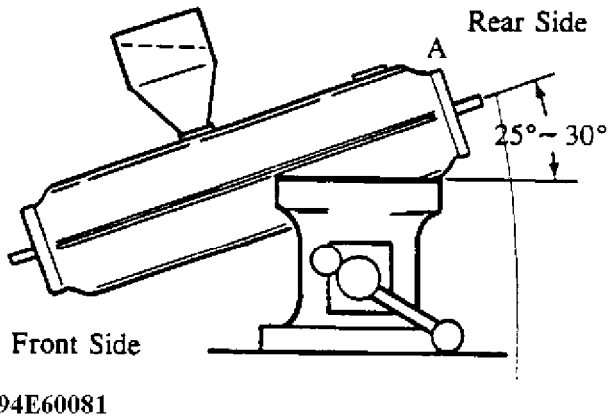

Fig. 15: Proper Positioning of Converter in a Vise
2. Hold the converter in a vise at an angle of 25° - 30° as shown in Fig. 15.
5. Tap the converter repeatedly at point "A" (see Fig. 15) with a plastic hammer to allow the pellets to flow in until no more pellets can be put in.
9. Hold the catalytic converter at an angle of 25°-30° in a vise again (see Fig. 15).